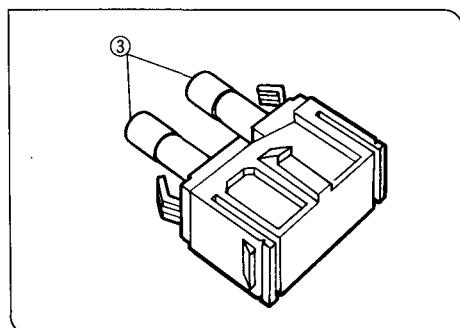

Fig. 47
- ◎ Before replacing fuses, set the main switch ① to "O" (OFF) and unplug the power cord. (The power cord should be unplugged from the AC receptacle to allow removal of the fuse cassette.)
1. Remove the fuse cassette ② by inserting the tip of a flat-bladed screwdriver to squeeze in the claw the left or right side of the fuse cassette and pulling outward. (Fig. 47)
2. Replace both fuses ③ with new ones. (Fig. 47)